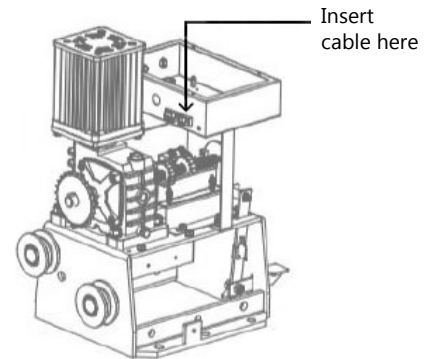

Figure 11
1. Plug the photocell sensor cable to the back of the gate opener, behind the circuit board. Figure 11